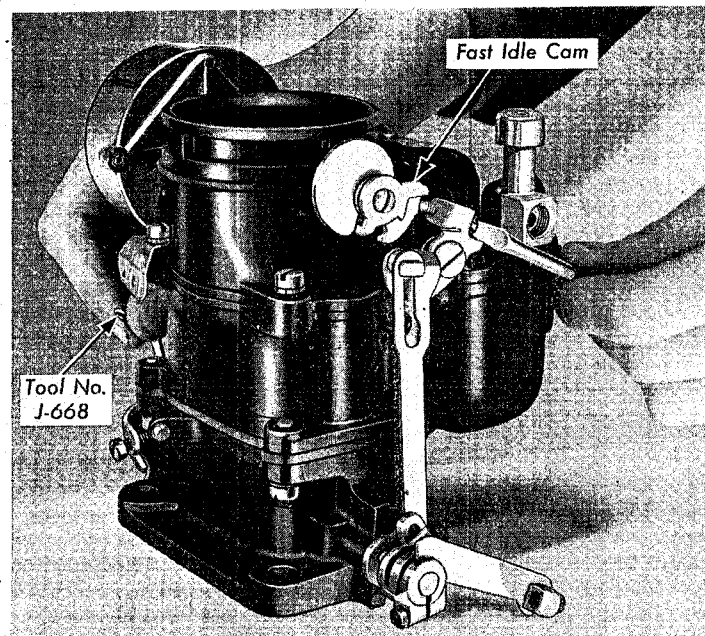

Fig. 60 Adjusting Fast Idle
2. With the fast idle screw resting against the high lobe of the fast idle cam, check the clearance between the throttle lever adjusting screw and the carburetor casting stop, as shown in the illustration. Plate 43, Fig. 60.